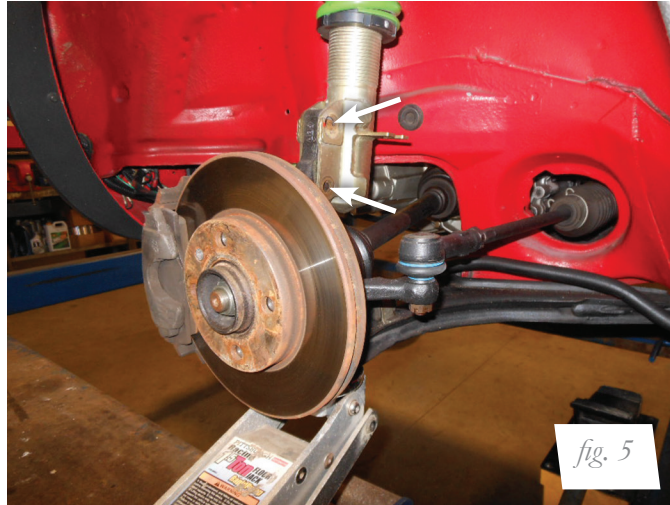

fig. 5
2. Support the hub assembly and unbolt the lower strut mount bolts (fig. 5).